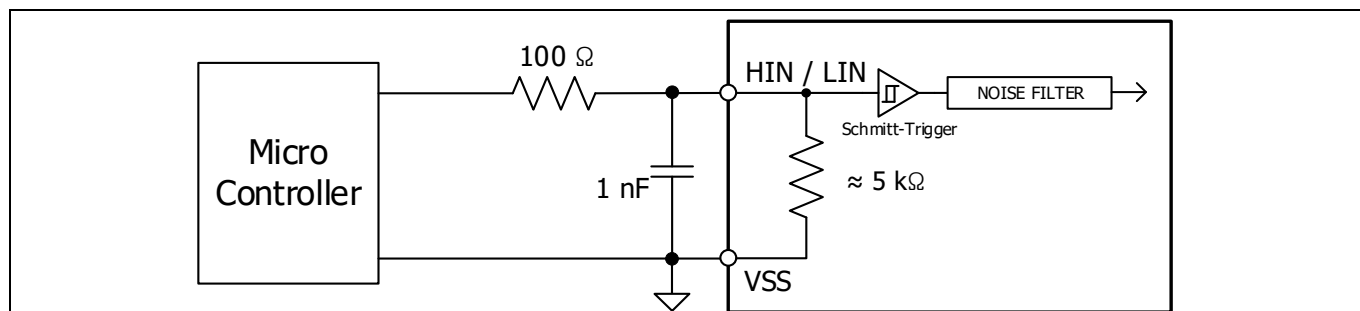
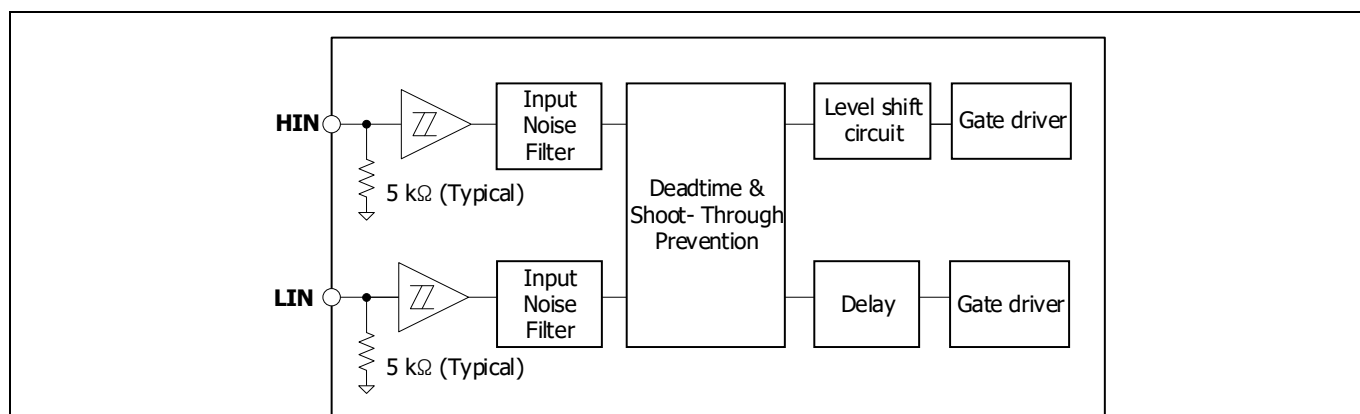

Figure 15 Recommended micro-controller I/O interface circuit
Figure 16 Simplified block diagram of IM828 gate driver IC
- To prevent signal oscillations, an RC coupling is recommended as illustrated in Figure 15.
Figure 15 shows the I/O interface circuit between micro-controller and IPM. The IPM input logic is active-high with internal pull-down resistors. External pull-down resistors are not needed.
As shown in Figure 16, the IM828 input signal section integrates a 5 kΩ (typical) pull-down resistor. Therefore, when using an external filtering resistor between micro-controller output and IPM input, pay attention to the signal voltage drop at the IPM input terminals. It should fulfill the logic "1" input voltage requirement. For instance, R = 100 Ω and C = 1 nF for the parts shown in Figure 15.